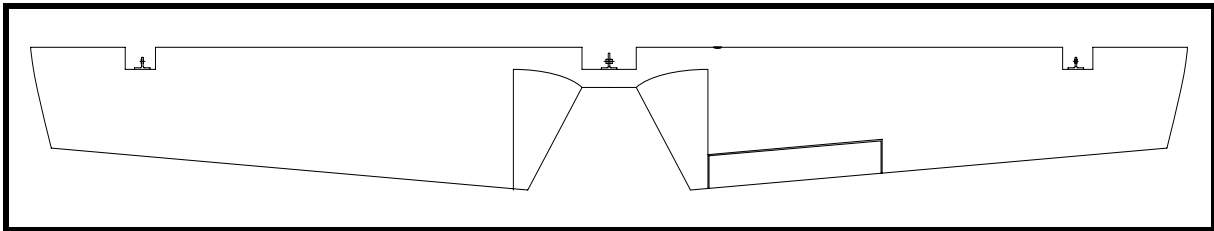

Figure 14
- ❑ Cut out the leading edge strips at the two outboard hinge openings as shown in Figure 14.
- ❑ Fit the inboard fairing skins. See Figure 14. These skins are aft of the elevator the elevator spar and inboard of Sta. 1.